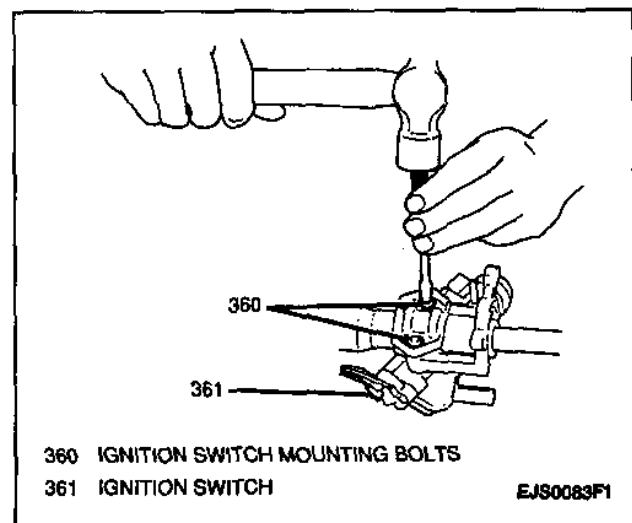

Figure 12—Removing Ignition Switch Mounting Bolts
Figures 12 through 15
5. Two ignition switch mounting bolts. Using a hammer and chisel, create slots on the top of the mounting bolts, then remove the bolts with a screwdriver (Figure 12).